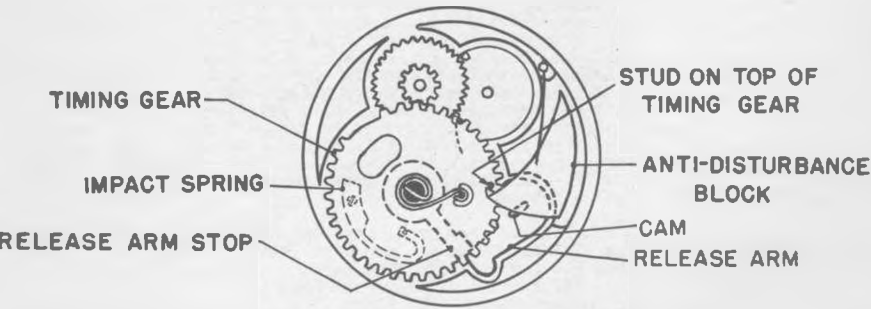

FIG. 13 ARMED POSITION
(1) After about .5 second, during which time the timing gear rotates in a clockwise direction under the influence of the coiled drive spring, the entire mechanism is brought to a halt as the stud on the impact spring engages the stud under the timing gear and the fuze remains in this condition until impact.
(2) On impact, the force of inertia on the flat impact spring is sufficient to disengage the studs on the impact spring and the timing gear. The timing gear now continues its rotation for a period of approximately 5 seconds until the stud, seated in place above the timing gear, engages a small projection on the end of the anti-disturbance block. Here the timing gear is once again brought to a halt with the fuze in a fully armed position, as in Fig. 13. The fuze is now in an extremely sensitive condition, since the anti-disturbance block is supported only by the delicate anti-disturbance block spring.